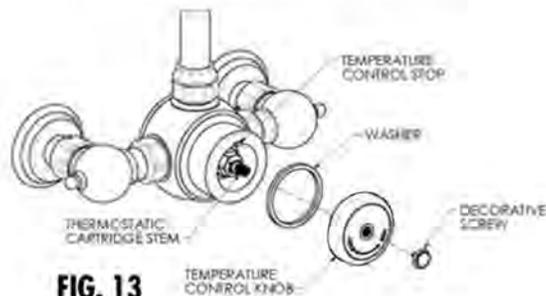

FIG. 13
2. Remove the temperature control knob by either removing the decorative screw or removing the set screw from the handle (fig. 13).